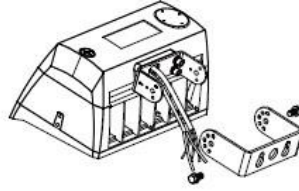

Figure 4
- Step 2. Attach the mount (Figure 4).